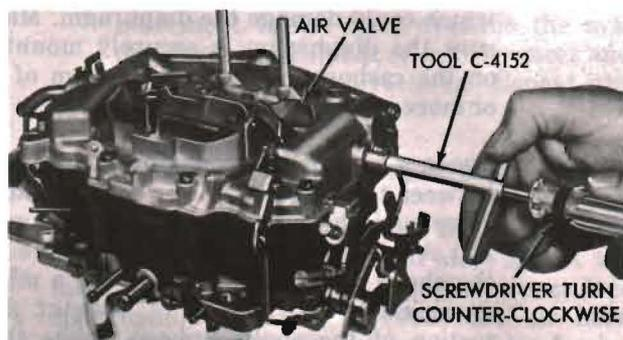

Figure 23. Adjusting Air Valve Spring Tension—Slide 2189 & 2190
- (1) Loosen the air valve lock plug (figure 23) and allow the air valve to position itself to wide open position.
- (2) With a long screwdriver that will pass through the center of Tool C-4152 (positioned on air valve adjustment plug) rotate the plug counterclockwise until the air valve contacts its stop lightly, testing with the finger, then rotate an additional number of turns as specified for the carburetor involved.
- (3) Hold the adjustment plug with screwdriver, and tighten the lock plug securely with Tool C-4152. Make sure the adjustment does not move when tightening. Check the air valve for freedom of movement. There must be no binding at any valve position.